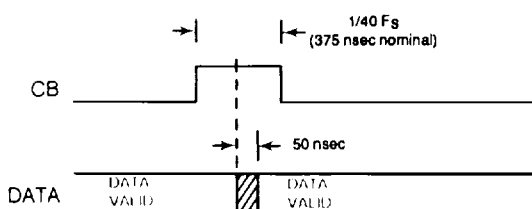

FIGURE 14. CONVERTER BUSY TIMING
The Converter Busy (CB) signal indicates that the tracking converter output angle is changing 1 LSB. As shown in FIGURE 14, output data is valid 50 ns maximum after the middle of the CB pulse. CB pulse width is $1/40 F_s$, which is nominally 375 ns.